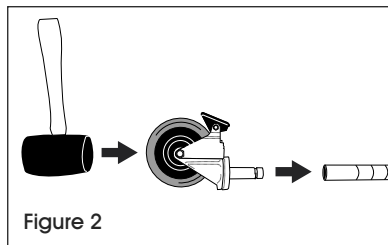

Figure 2
1. Ensure post is positioned as shown. (See Figure 2)
2. Engage the wheel brakes to keep casters from rolling during assembly. Use a rubber mallet to tap caster stems into posts. (See Figure 2)